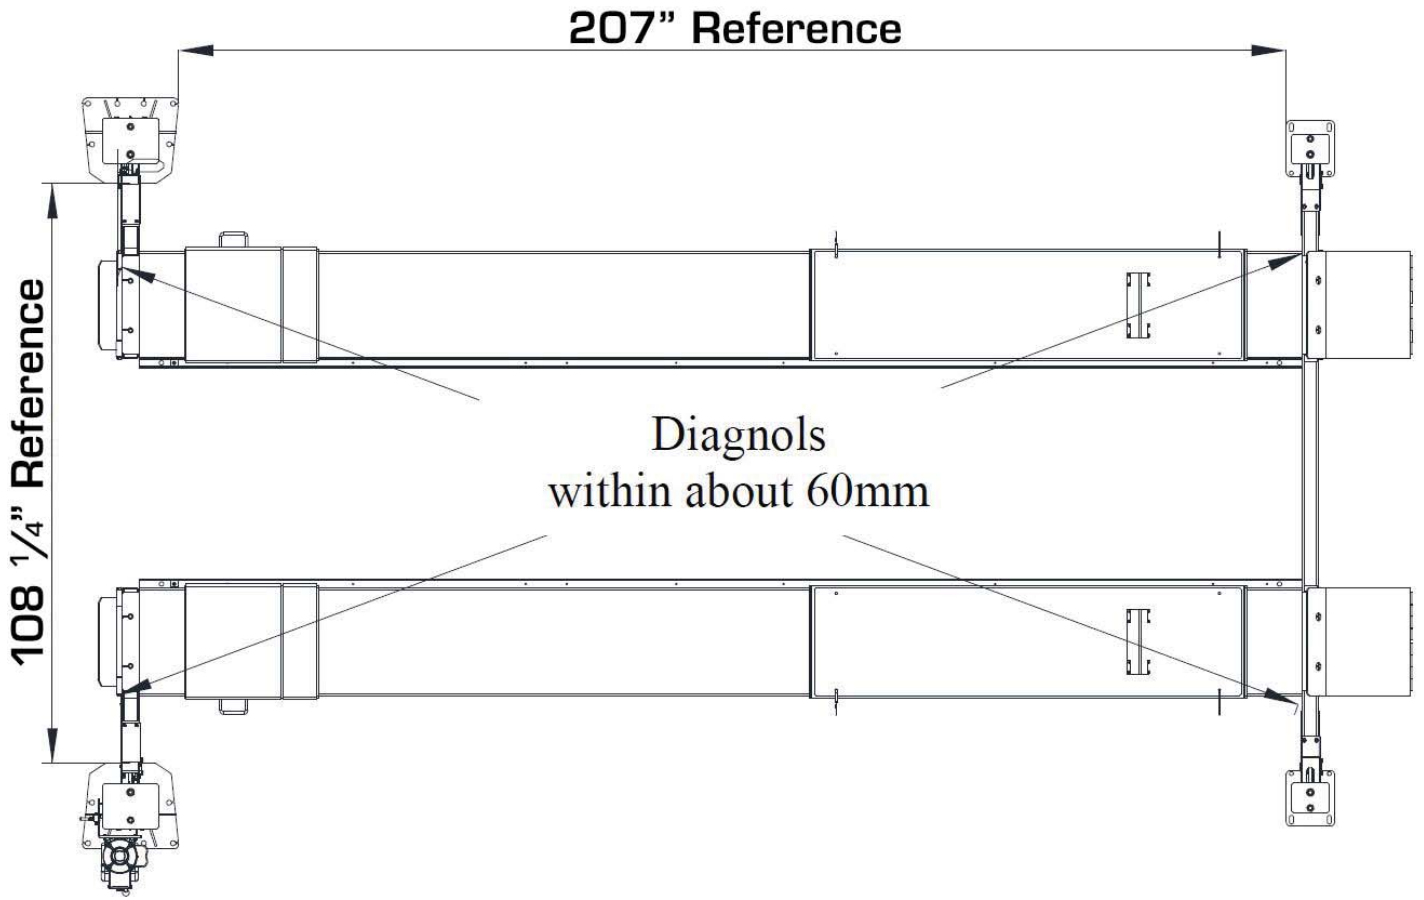

Figure 26 – Square And Diagonal Measurement
- Before proceeding, install the space bar and bolt it on the runways as shown in fig. 25 to help maintain the runway spacing. Adjust runways until the diagonals are equal. Check the measurement referring to the fig.26 and make sure to keep columns square to the center line of lift.